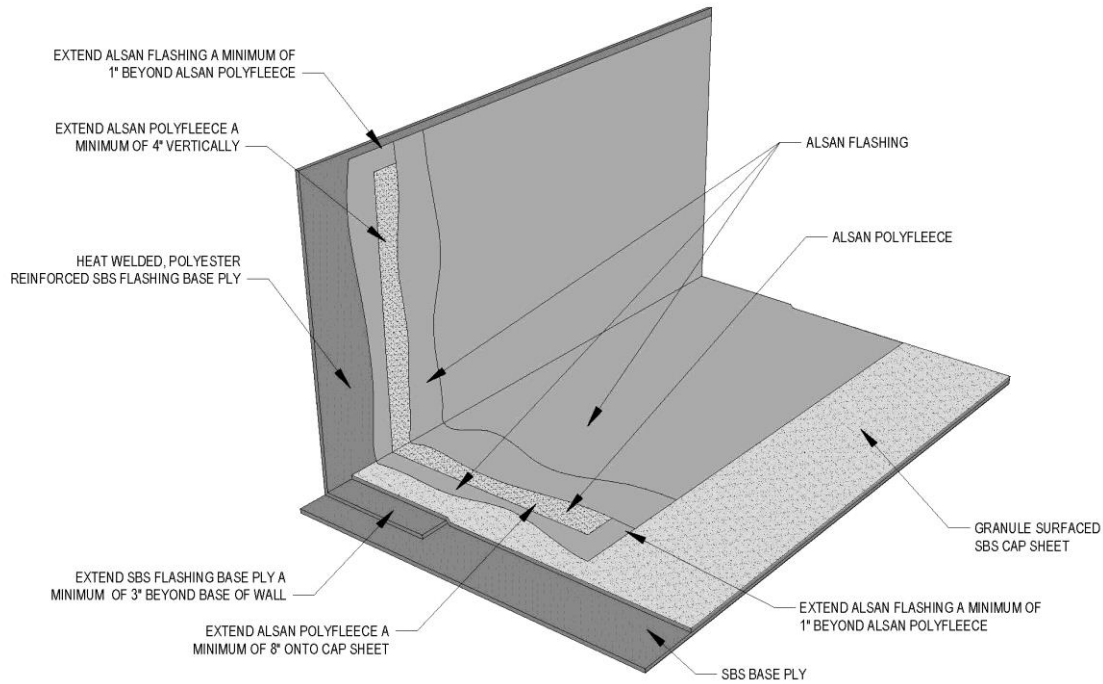

Figure 4.2a ALSAN® FLASHING Wall/Curb Flashing with SBS Flashing Base Ply on Granular Surfaced Cap Sheet Without Cant
- SOPREMA® ALSAN® FLASHING liquid-applied, reinforced flashing is recommended for SBS modified bitumen membranes to seal roof transitions, terminations and penetrations. Refer to Figures 4.2a through 4.2n.
- Ensure ALSAN® POLYFLEECE extends a minimum of 4 in vertically and 8 in horizontally at roof terminations, transitions and penetrations. Refer to Figures 4.2a through 4.2n.